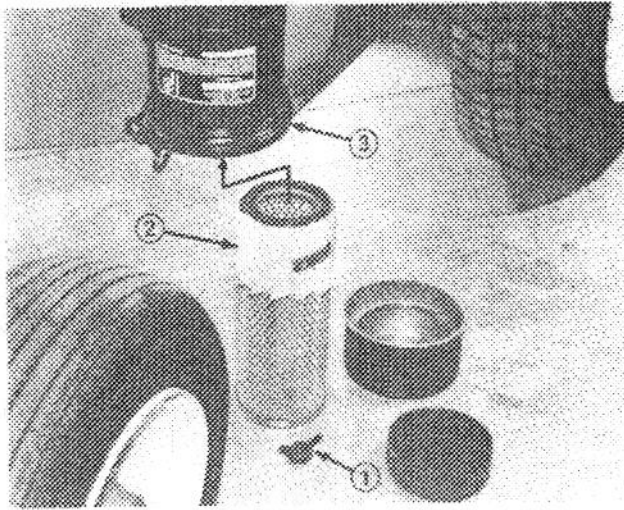

Figure 45
2. Remove wing nut w/gasket and slide filter element out of air cleaner body (Fig. 45).